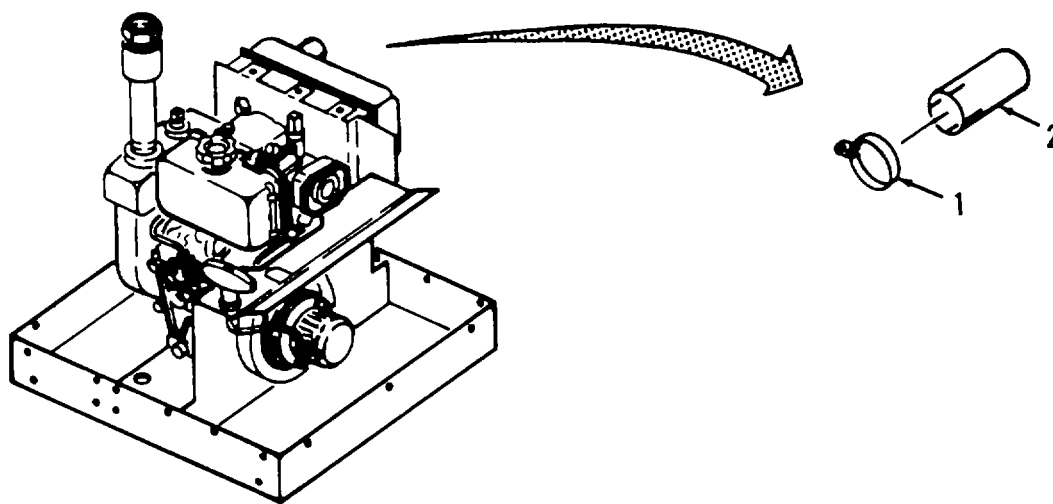

Figure 4-6. Exhaust Extension Replacement.
a. Removal. (Refer to Figure 4-6).
- (1) Loosen and remove clamp (1).
- (2) Remove exhaust extension (2) from engine.